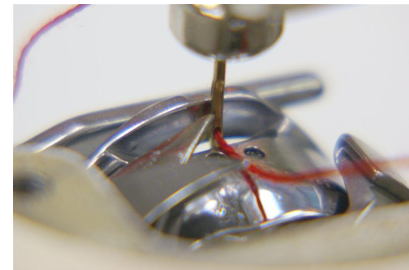

Figure 87
Step 11: Hook point should be just above eye of the needle. *See figure 87*
Step 15: Now rotate the hook so that the point of the hook is just at the edge of the needle. *See figure 87*